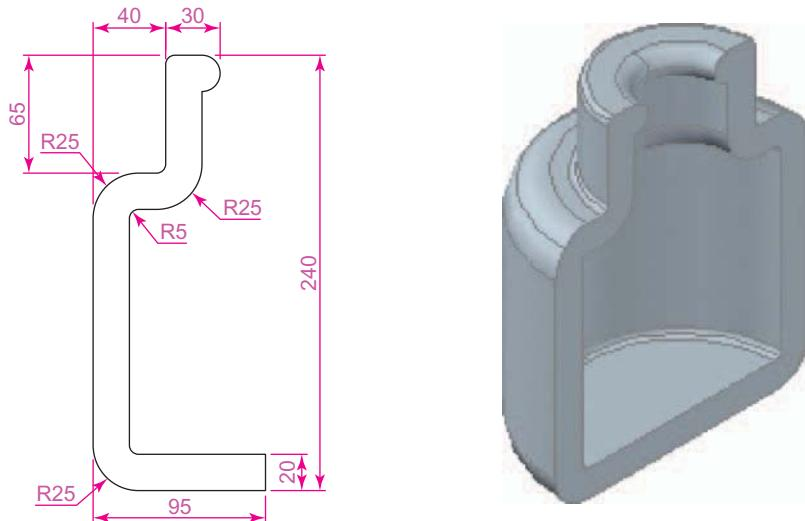

Fig. 12.24 Third example – Revolve. The outline to be revolved and the solid of revolution
Third example – Revolve (Fig. 12.24)
1. Construct the pline (left-hand drawing of Fig. 12.24). The drawing must be either a closed pline or a region.
The result is shown in Fig. 12.24 (right-hand drawing).